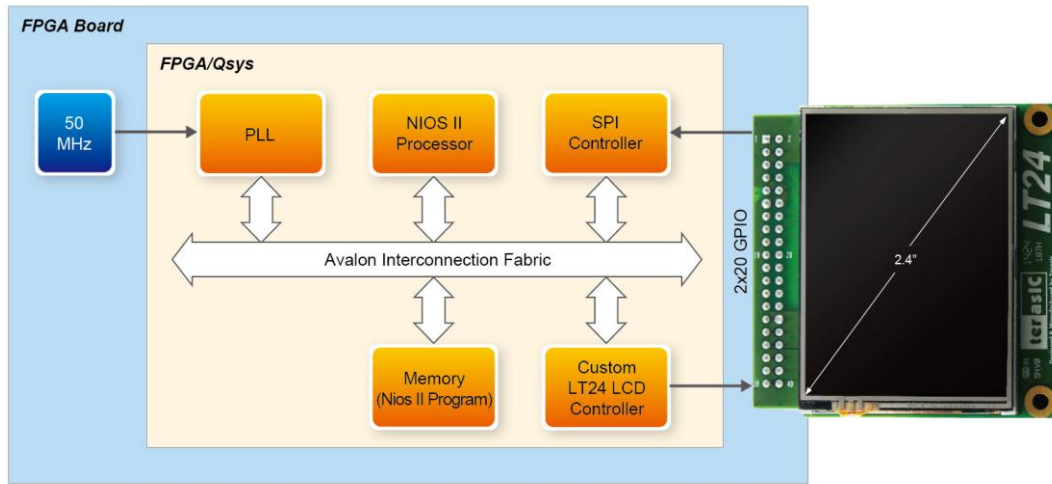

Figure 3 System Block Diagram
Figure 3 shows the system block diagram of Painter demonstration. Terasic custom Qsys component - **LT24 LCD controller** is used to display 240(H) x 320(V) image. Its source code is located in the “/ip/LT24_Controller” folder of Painter demo project. Qsys built-in SPI controller is used to communicate with the AD7843 ADC via SPI interface to retrieve data from the touch screen. The Nios II program handles touch event and image display. It is stored in either on-chip memory or external memory. The LCD module should be initialized before sending image data to the LCD for image display.